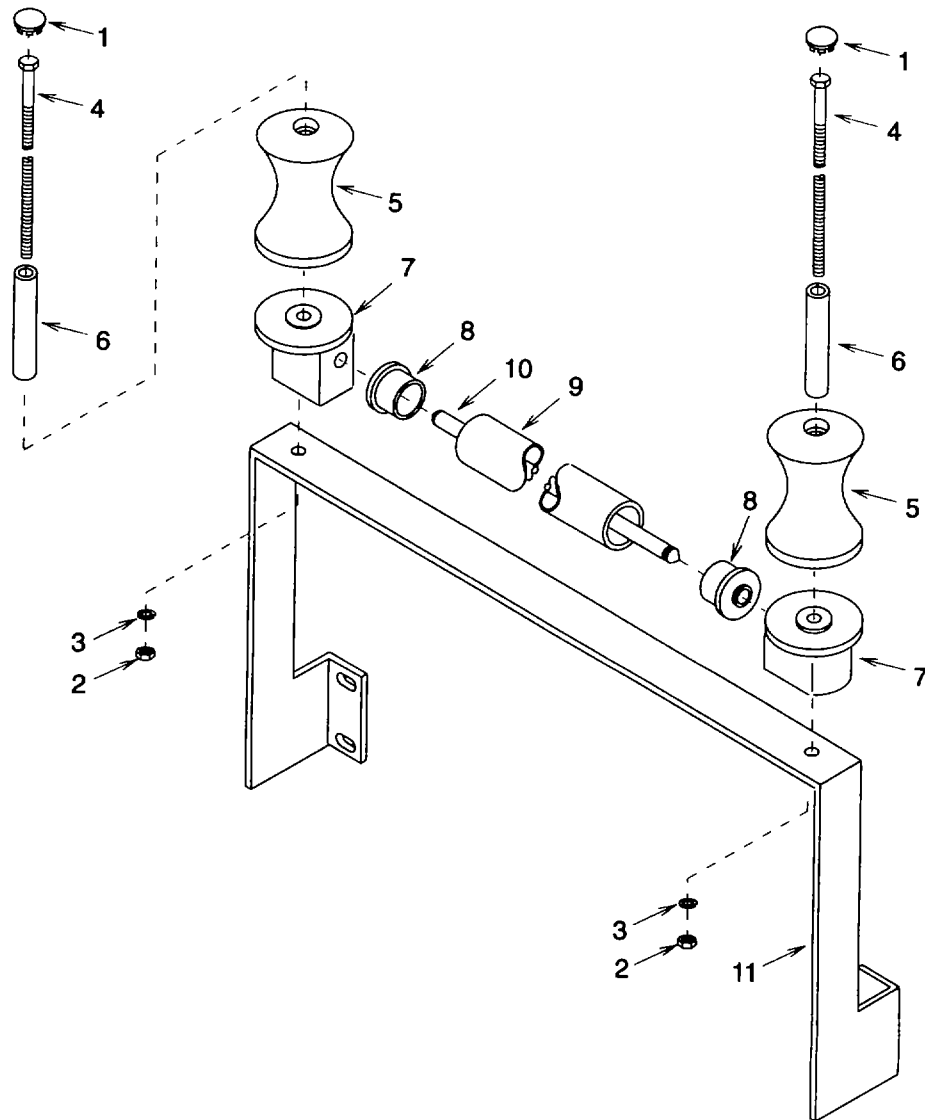

Figure 4-14. Hose Roller Assembly
b. Disassembly (See figure 4-14)
- (1) Remove two hole plugs (1)
- (2) Remove two nuts (2), lock washers (3), and screws (4)
- (3) Remove two spools (5) and bushings (6).
- (4) Remove two pedestals (7), bearings (8), one tube (9), and axle (10)
d. Assembly (See figure 4-14.)
- (1) Install one pedestal (7), spool (5), bushing (6) screw (4) new lock washer (3), and nut (2).
- (2) Assemble tube (9), two bearings (8), axle (10), and remaining pedestal (7). Insert axle into pedestal installed on bracket 11
- (3) Install spool (5) and bushing (6) onto pedestal (7) and secure to bracket (11) using screw (4), new lock washer (3), and nut (2)
- (4) Install two hole plugs (1).